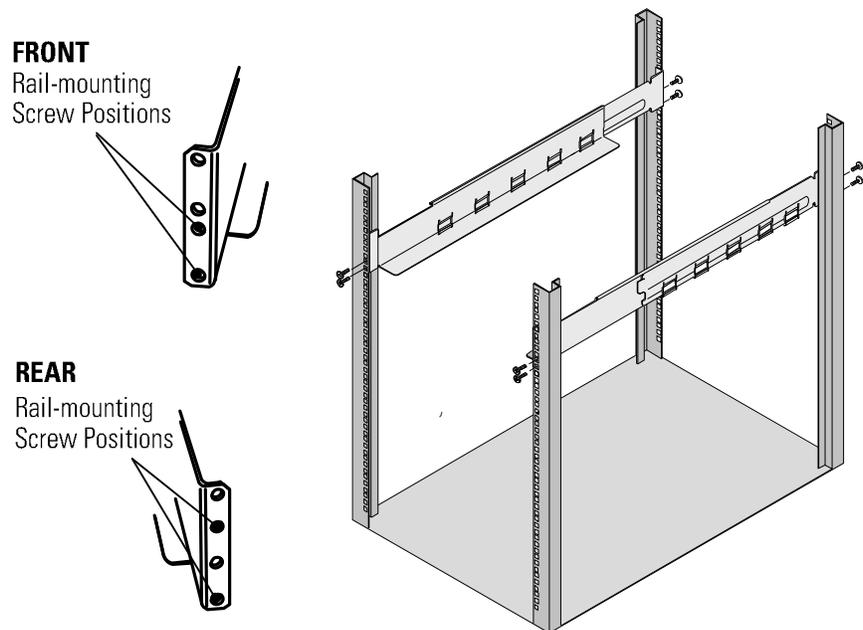

Figure 3. Attaching the Rails
3. Place the rails on the inside of the rack posts with the cabinet mounting flanges facing inside the rack. The **L** (Left) or **R** (Right) letter on the side of the rail should also face inside the rack (see Figure 3).
5. Secure each rail to the front and rear of the rack with two M6×12 mm screws (see Figure 3).